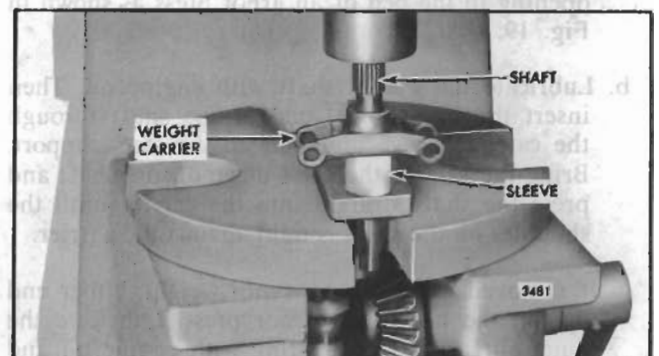

Fig. 19 - Installing Governor Weight Shaft in Weight Carrier
- a. Support the weight carrier (rear face up) on a sleeve and a steel support (with a 1" hole) over an opening in the bed of an arbor press as shown in Fig. 19.